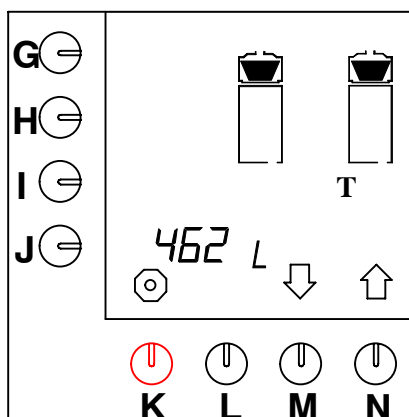

Fig. 28 Total counter coffee-making system
- The total counter appears on the display. The total number of litres of coffee that have been made during the lifetime of the machine can be read from the display (fig. 28 ).